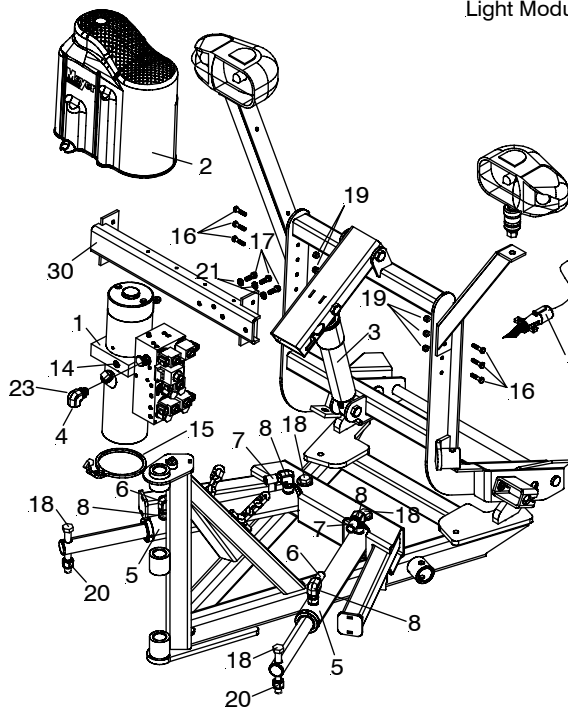

Figure 1
- A. Install the V-70 Mounting Bracket (30) to the Lift Frame (**upper three holes**) using 5/16-18 x 1-1/4" Bolts (16) and 5/16-18 Locknuts (19). Install the V-70 Lift Assembly (1) to V-70 Mounting Bracket Assembly and Light Brackets from the CLF Carton(30) using Bolt H 3/8-16 x 1" (17) and 3/8 Lockwasher (21). Remove shipping plug on V-70 Lift Assembly and install Breather (14). See figure 1.
- B. Attach Lift Arm packed in the CLF Carton to Lift Frame using Bolt H 5/8-11 x 5-1/2" and 5/8-11 Locknut. Attach the Lift Cylinder (3) to the Lift Arm using Bolt H 5/8-11 x 4-3/4" and 5/8-11 Locknut. Attach the Lift Cylinder (3) to the Lift Frame using Bolt H 5/8-11 x 3-1/4" and 5/8-11 Locknut. Attach elbow (23) to V-70 Lift Assembly (1) along with Hose (4) and attach hose (4) to Lift Cylinder (3).